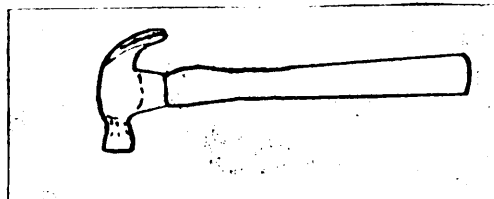

Figure 3.
5. Place the handle back in the hammer. Hammer should be as good as new. (Figure 3).